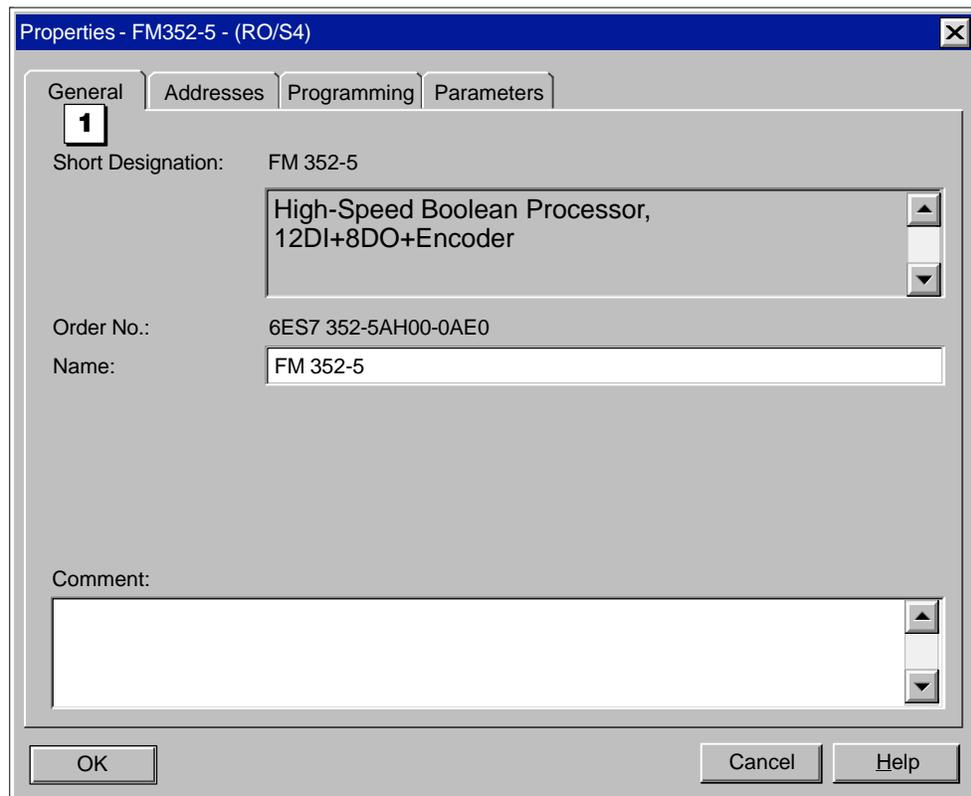

Figure 5-4 FM 352-5 Properties Dialog, General Tab
- 1 The General tab, shown in Figure 5-4, displays basic identification and descriptive information. You can also use this dialog to enter comment information.
The Properties dialog, shown in Figure 5-4, also applies to Order Number 6ES7 352-5AH10-0AE0.